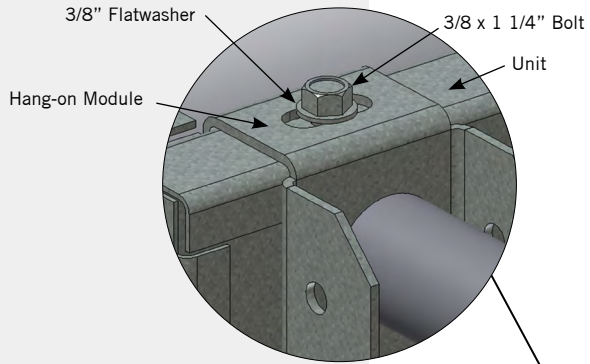

**Figure 25.** External Service Platform Assembly for 8' x 6' and 8' x 9' Units
Refer to **Figures 25 through 27** on **pages 17 through 19** for your unit platform assembly.
1. Lift hang-on module(s) into place by placing hanger into notch at the top of the unit, and secure to unit using 3/8" x 1 1/4" bolts. See **Detail A (Figures 25 through 27)**.
2. Slide clamps behind panel flange at bottom of hang-on module(s) supports, and secure to platform. See **Detail B (Figures 25 through 27)**.